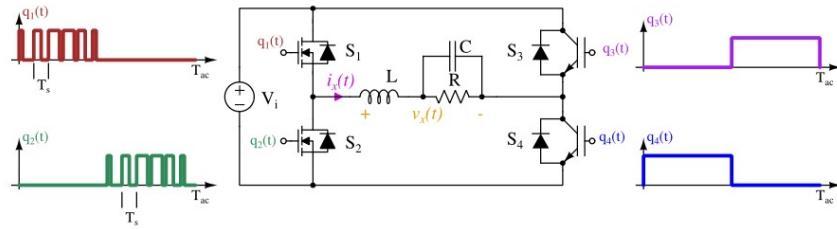

Figure 3.1: Inverter.
- Use LTSpice to simulate the inverter of Figure 3.1 using a sine-triangle intercept PWM modulation.
Use LTSpice to simulate the inverter of Figure 3.1 using a sine-triangle intercept PWM modulation.